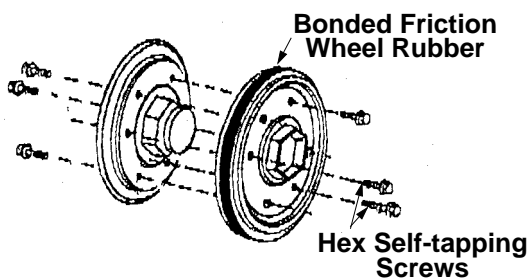

Figure 21
7. Reassemble new bonded friction wheel rubber to the friction wheel assembly, tighten the six screws in rotation and with equal force. See Figure 21.